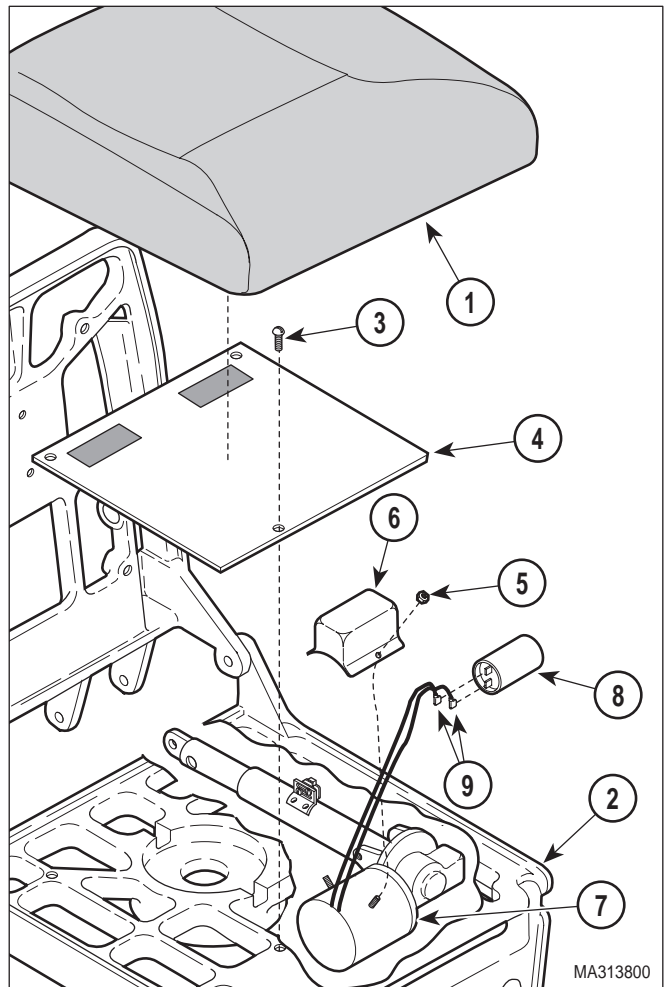

Figure 4-9. Back Capacitor Removal / Installation
- (2) Remove upholstered seat section (1, Figure 4-9) from seat casting (2).
- (3) Remove three screws (3) and seat cover (4) from seat casting (2).
- (4) Remove two nuts (5) and capacitor cover (6) from motor (7).